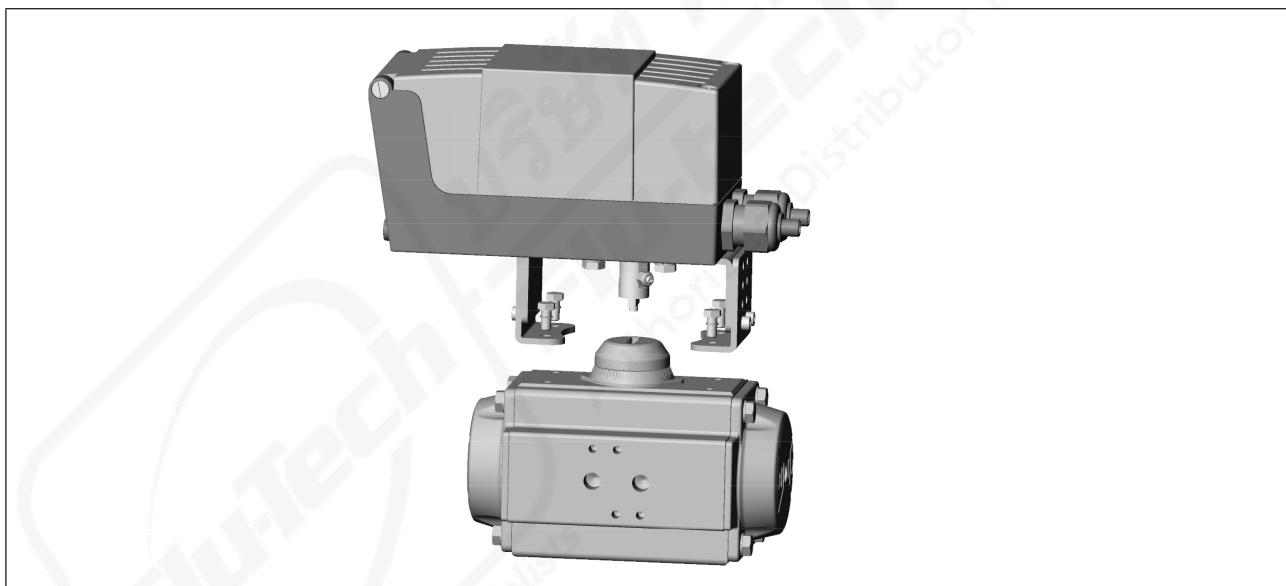

Figure 24: Mounting the SideControl on the rotary actuator
- Place the SideControl with the assembly bridge on the rotary actuator and attach it using 4 hexagon bolts ⑥ (see "Figure 24").